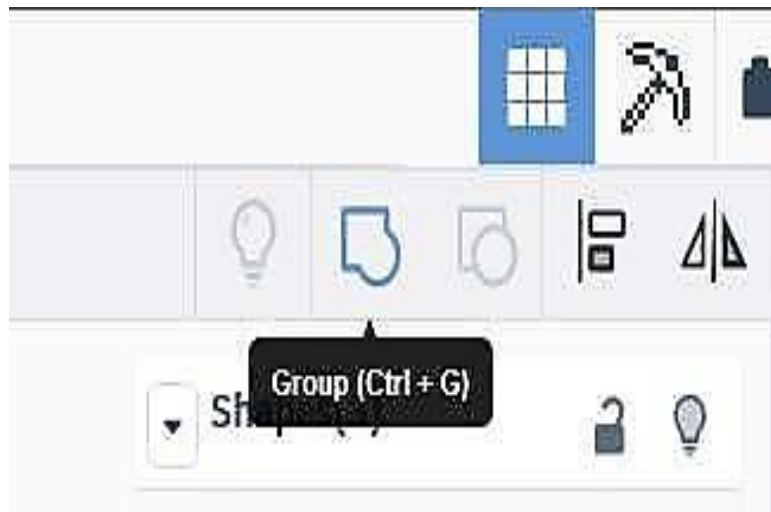

Fig. 4.22: Finalization of the Overall design
11. Click on the Group button, which will connect all the pieces of your project together (Fig. 4.22).